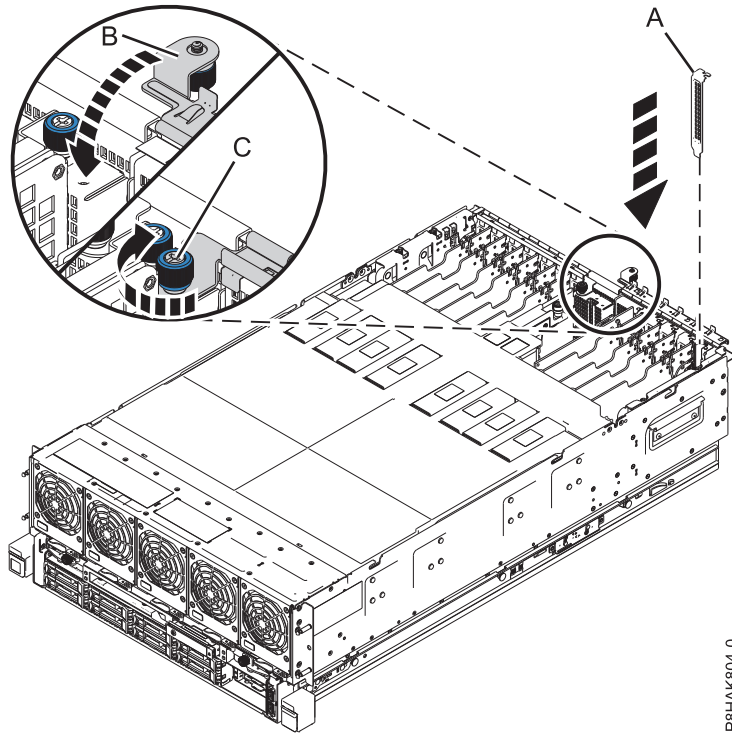

Figure 16. Installing a filler in a PCIe adapter slot in a 8408-44E or 8408-E8E system
- a. Carefully grasp the filler tailstock and align the filler with the slot and its connector on the system backplane, see **(A)** in Figure 16 on page 25.
- c. Close the I/O retention bracket by rotating it down towards the system **(B)**. See Figure 16 on page 25.
- d. Screw the I/O retention bracket captive thumbscrew clockwise **(C)**, as shown in Figure 16 on page 25.